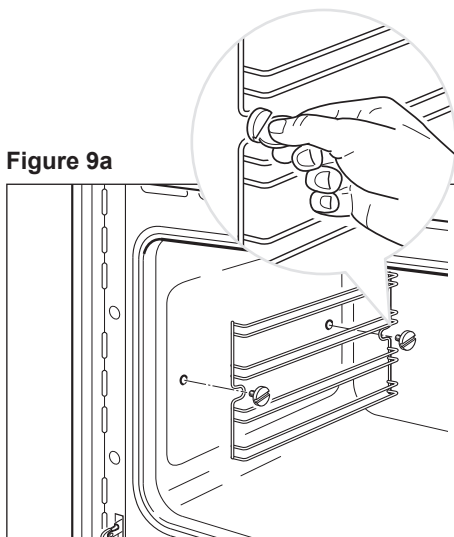

Figure 9a
- Assemble the wire racks on the oven walls using the 2 screws (fig. 9a).
- Unscrew the fixing screws and slide off the wire racks to the oven wall as in fig. 9a.